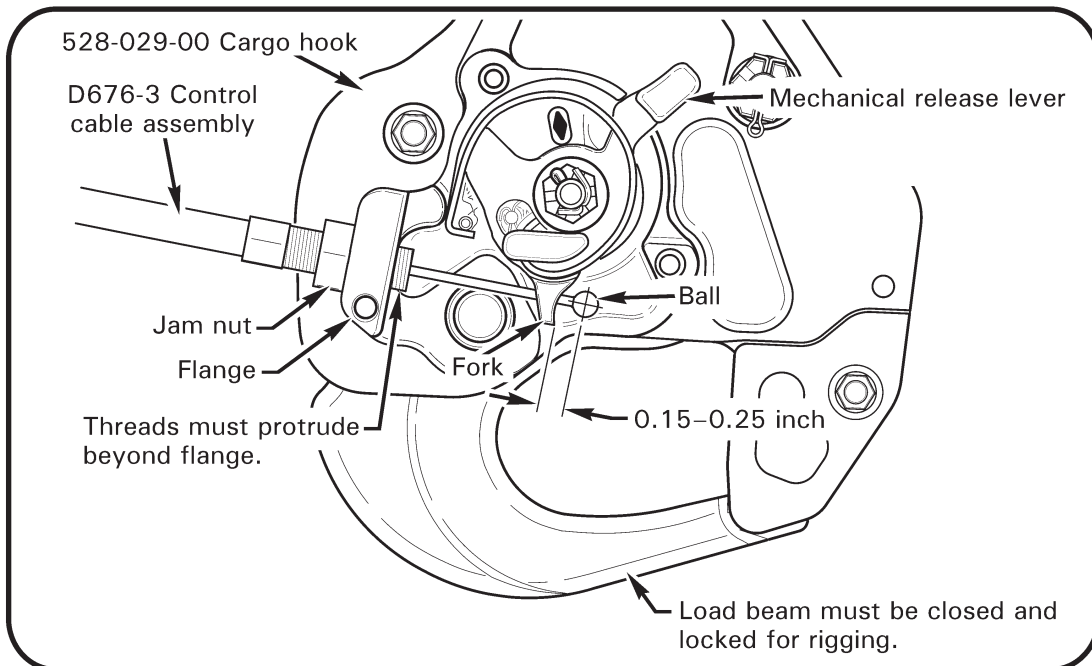

FIGURE 25-4 MECHANICAL RELEASE CONTROL RIGGING
5. Remove screws securing (mechanical release) cover to 528-029-00 cargo hook and remove cover. Refer to Figure 25-4. Rotate release lever clockwise to remove free play (lock indicator will begin to move) and measure gap between fork and ball as shown. Adjust gap per § 25-75 as required to obtain measurement between 0.15–0.25 inch.
3. Refer to Figure 25-4. If not previously accomplished, connect D676-3 (control) cable assembly's ball to mechanical release's fork. Rotate release lever clockwise to remove free play (lock indicator will begin to move) and measure gap between fork and ball as shown.